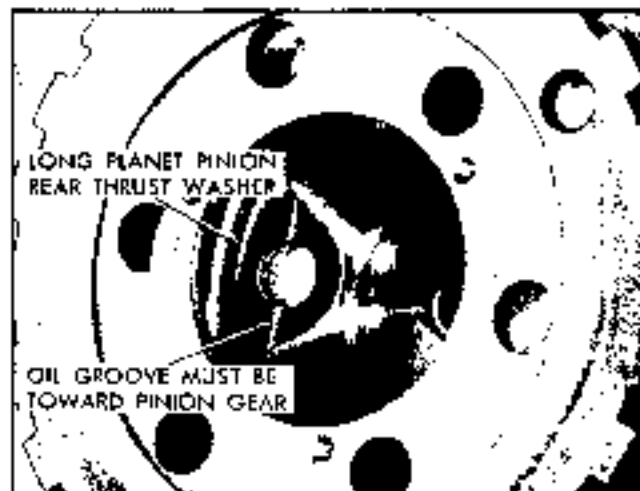

Fig. 7F-65 Long Pinion Rear Thrust Washer
2. Install pinion front thrust washer ("paired" washer), retaining it with petrolatum. Oil grooves must face pinion. (Fig. 7F-66).